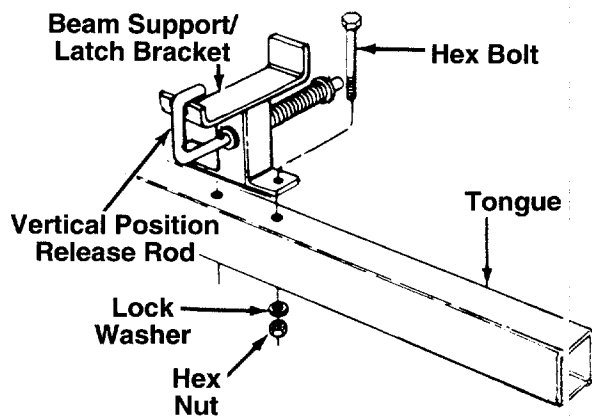

FIGURE 4.
2. Place the beam support/latch bracket on the tongue as shown in figure 4. Secure with hex bolts, lock washers and hex nuts just removed. Tighten securely.